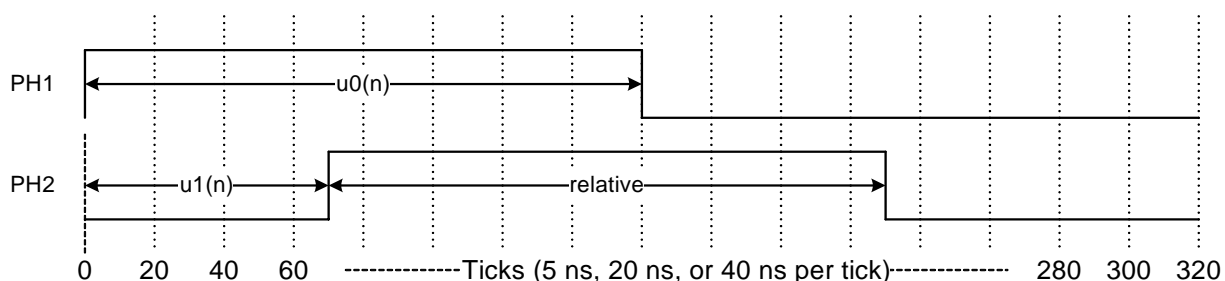

Figure 6.7. DPWM Timing Example—PWM and PSM
The following is a combined example of both pulse-width and phase-shift modulation on phases PH1 and PH2 consecutively. As shown in Figure 6.7 the total period is 320 ticks. For Phase 1 the pulse width is simply modulated by $u_0(n)$. For Phase 2 the modulation is slightly different. In this case the pulse width is fixed at 160 ticks of the input clock; however, its position relative to tick time 0 is modulated by $u_1(n)$.
- Step 2. Draw the desired timing; see Figure 6.7.